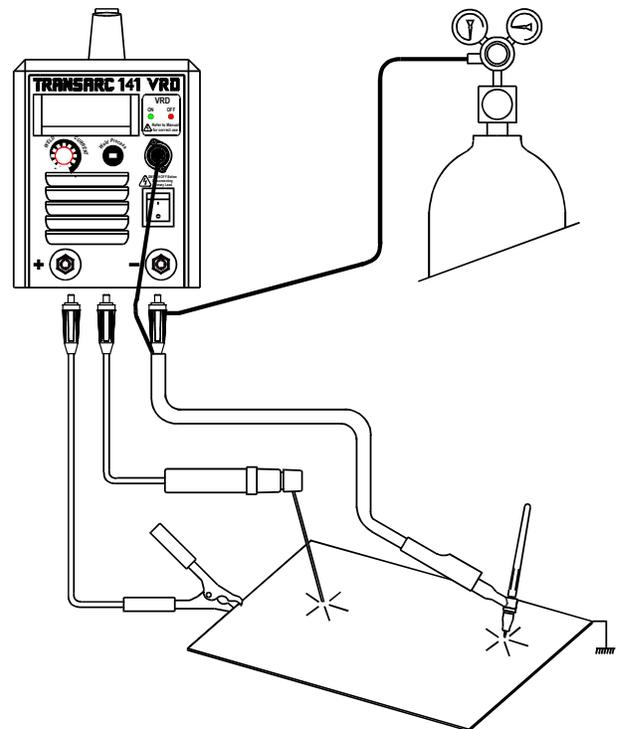

Figure 2 – Transarc 141VRD and Transarc 161VRD Setup
2. Connect the earth clamp to the positive terminal, torch cable to the negative; torch trigger switch cable and gas hose as shown in Figure 2.
7. Set the **Weld Current (A)** control to the desired welding current.
9. If necessary, readjust the **Weld Current (A)** control to obtain the welding condition required.